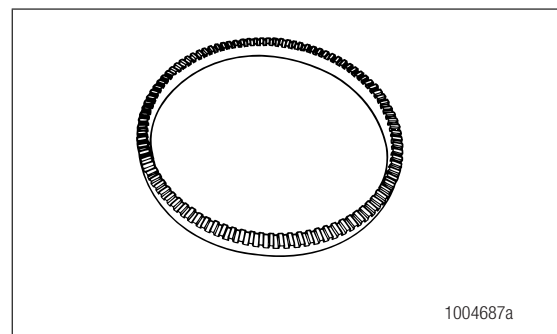

Figure 1.7
- A machined or stamped ring mounted to a machined surface on the hub of each ABS-monitored wheel. Figure 1.7.